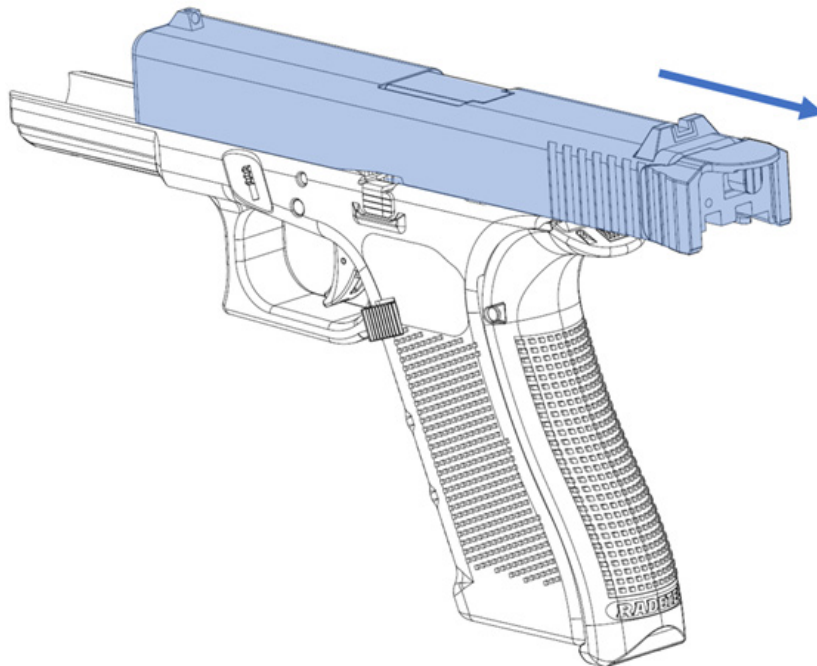

Figure 73: Slide in racked position.
2. Lock open the slide by pulling it back (Figure 73).